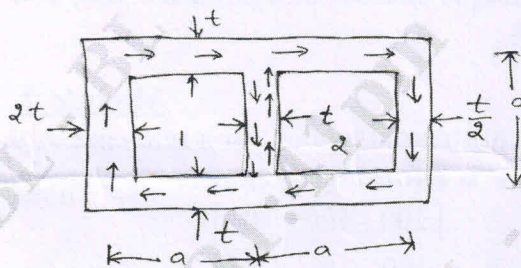

Fig.Q8(b)
- b. Two-cell tabular section whose wall thicknesses are as shown in Fig.Q8(b). If the member is subjected to a torque  $T$ , determine the shear flows and the angle of twist of the member per unit length.